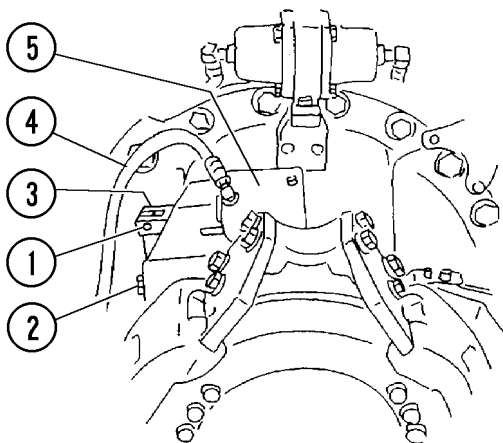

FIGURE 3-1. PARKING BRAKE ACTUATOR
2. At the parking brake relay valve, remove both air hoses (4, Figure 3-1) connected to each air chamber of the parking brake spring cylinder assemblies (5).
5. With parking brake released, turn adjustment bolt (2) counterclockwise, and check for “play” in linkage (3). Remove pin (1). Repeat for other caliper. Disconnect air supply.